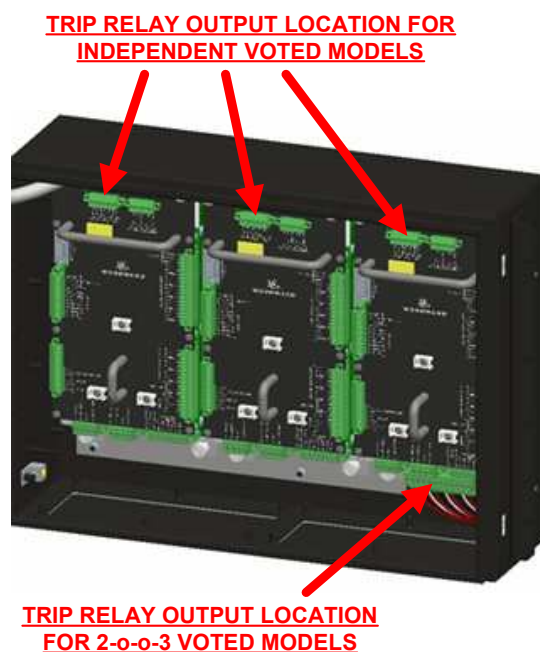
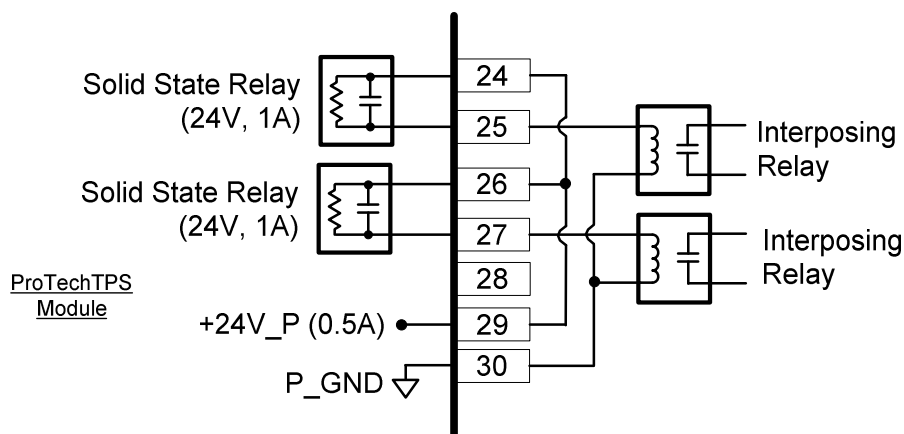
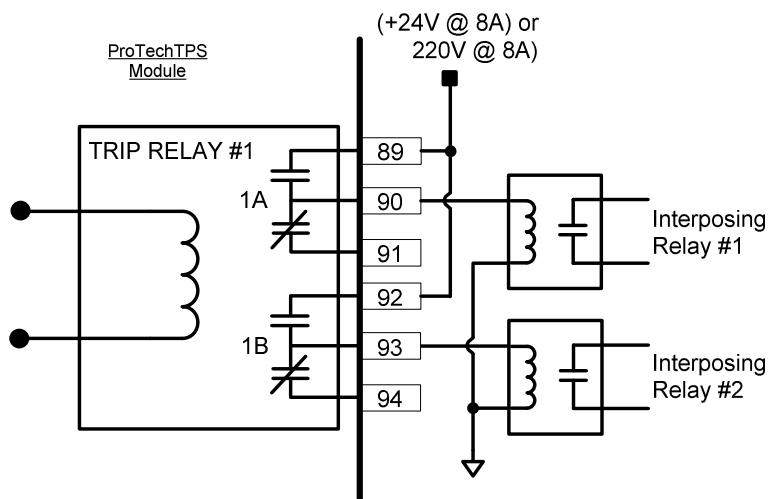

Figure 2-16a. Example Trip Relay Output Wiring
Figure 2-16b. Example Trip Relay Wiring (per Module) (Independent Trip Relay) (Internal Supply)
Figure 2-16d. Example Trip Relay Wiring (Voted Trip Relay Models)
Two basic ProTech® TPS model variations are available depending on the required trip system architecture: the “Independent Trip Relay” model and the “Voted Trip Relay” model. Either version also has 3 programmable Relay Outputs per module. Refer to Figure 2-16a for the general locations for Trip Relay Output wiring in the two models.
Each ProTech® TPS “Independent Trip Relay” model has three independent modules (A, B, C), and each of these modules has five solid-state relay outputs. Each of the five solid-state relays have normally-open type contacts and are rated for 24 Vdc @ 1 A. Two of these relay outputs are dedicated as redundant trip signal outputs, and the other three relay outputs are user-programmable which can be programmed to function independently as required. The Independent Trip Relay ProTech® TPS models are designed so the each set of trip relays drive one of three external independent trip solenoids, typically used in 2-o-o-3 voted trip block assemblies. Refer to Figure 2-16a for relay terminal location and Figure 2-16b or c for wiring information.
**Note:** with the “Voted Trip Relay” ProTech® TPS models, the two solid-state trip relays located on each module (A, B, C) are not available for use or connection. Each module’s trip signal relays are connected internally to the ProTech® TPS in a 2-o-o-3 voted fashion to drive two redundant Form-C trip relays on the unit’s 2-out-of-3 voted relay module. These two redundant relays have normally open and normally closed output contacts rated for 220 Vac @ 8 A or 24 Vdc @ 8 A. Refer to Figure 2-16a for relay terminal location and Figure 2-16d for wiring information.